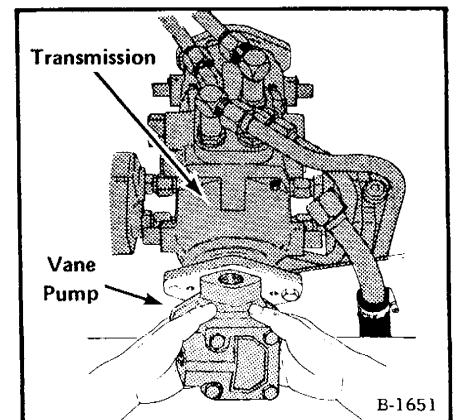

Fig. 2-14 Removing Vane Pump
- (1) Disconnect the tubelines from the pump.
- (2) Remove the two bolts which hold the pump to the transmission, and lift the pump out. (Hit with a soft hammer, if necessary, to loosen.) (Fig. 2-14).